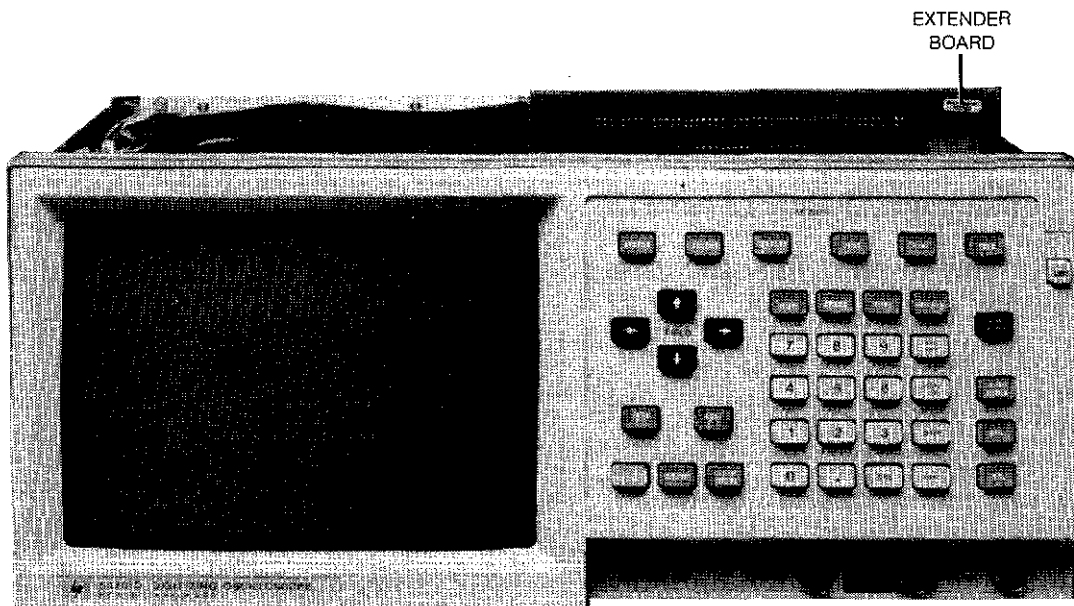

Figure 6-8. Service Slot Extender Board
6. Install service slot extender board into service slot on motherboard as shown in figure 6-8.